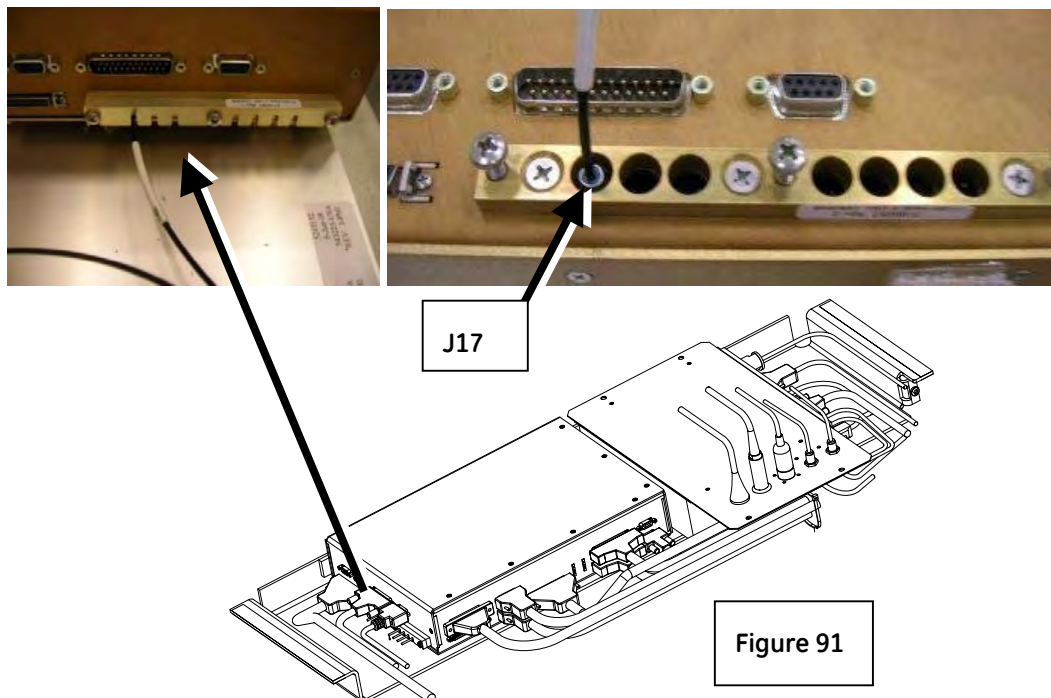

Figure 91
B. Connect the fiber optic cable (5174620) to the SRI **(Fig 91)**